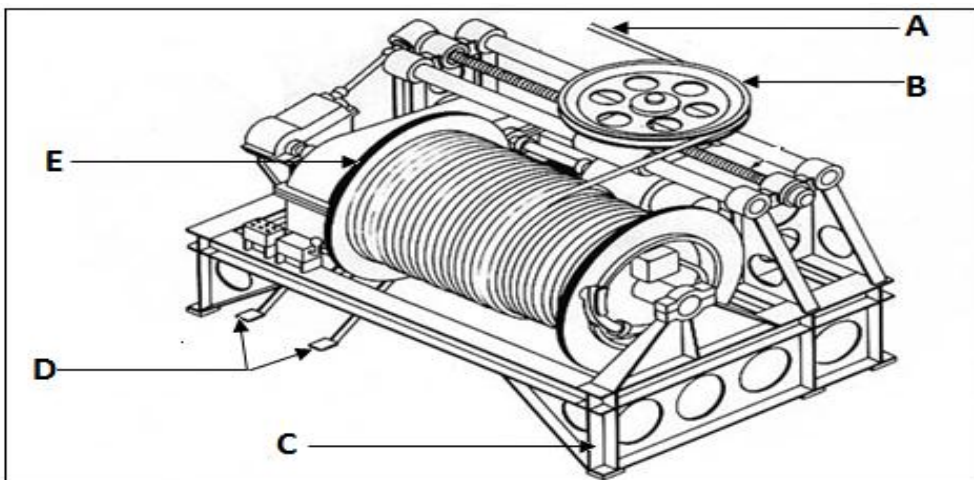

FIGURE 3
4.1 Identify the indicated parts of the drum winder on a winch shown in FIGURE 3 by writing the answer next to the letter (A–E) in the ANSWER BOOK.